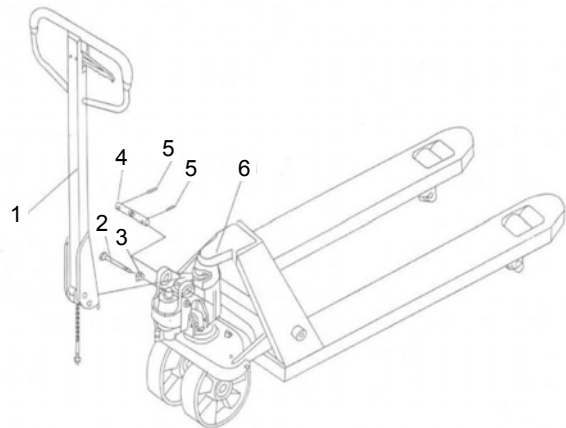

Figure 2 Handle Assembly
- 1) Insert the handle arm (Item 1, Fig. 2) into the pump piston, then use a hammer to insert the axle with hole into the hydraulic pump and handle arm from right to the left (Fig. 3).
- 3) Press the handle arm down; take away the pin (Item 2, Fig. 2).
- 4) Set the control lever of the handle to 'LIFT' position, then raise the lever plate with the pin (Item 2, Fig. 2) and insert the adjusting bolt into the front slot of lever plate. Note: Keep the adjusting nut under the lever plate.
- 5) Use a hammer to insert the 2nd dowel pin (Item 5, Fig. 2) into the 2nd hole of the axle. The draw-bar is now assembled to the pump.